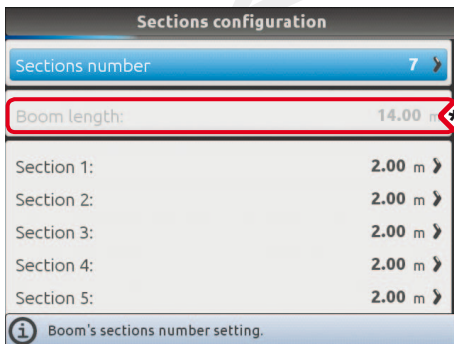

Fig. 155
The boom width value displayed in Fig. 155 will vary depending on the selected setup.
- Repeat the setup for each section (Fig. 155).